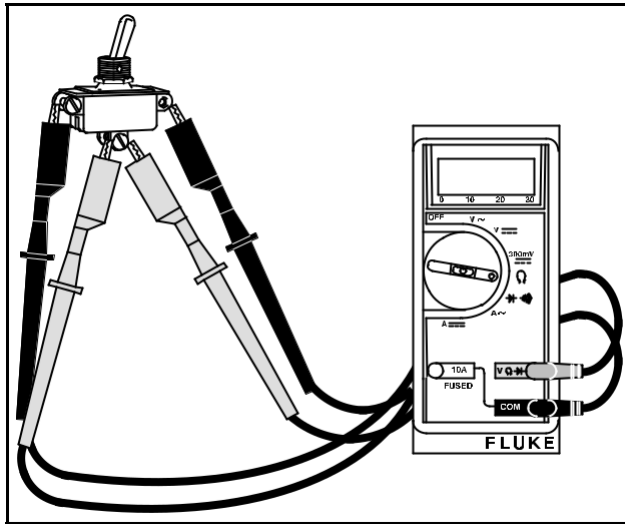

Fig. 109 – CHECKING MULTIPLE TERMINAL SWITCH
3. If meter shows continuity move switch to other position and the reading should not show continuity, Fig. 109.
4. Move tests lead from end terminal to other end terminal and repeat tests. Test results should be the opposite of first tests, Fig. 109.